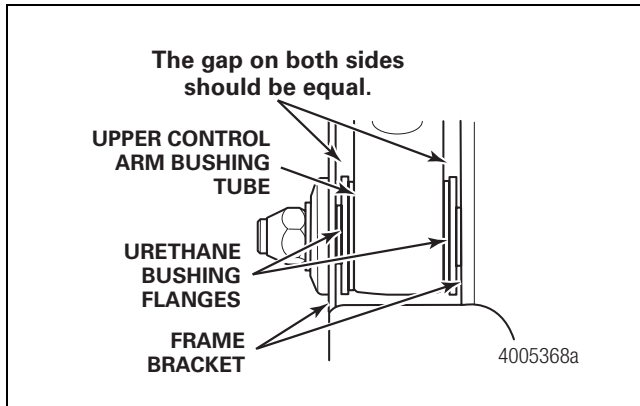

Figure 9.9
- A. The bushing flanges are intact on both sides of the bushing tube, and everything is centered within the frame bracket or axle seat, which is the correct position for the upper control arm and bushing. Figure 9.9.